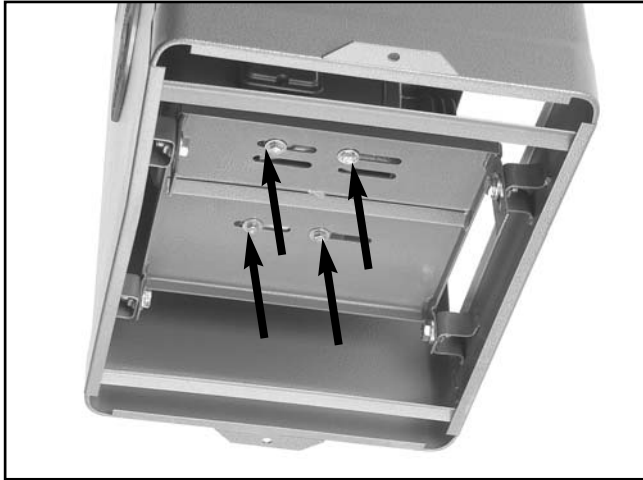

Figure 19. Motor mount bolts (shown underneath stand for clarity).
- Loosen the motor mount bolts shown in **Figure 19**.